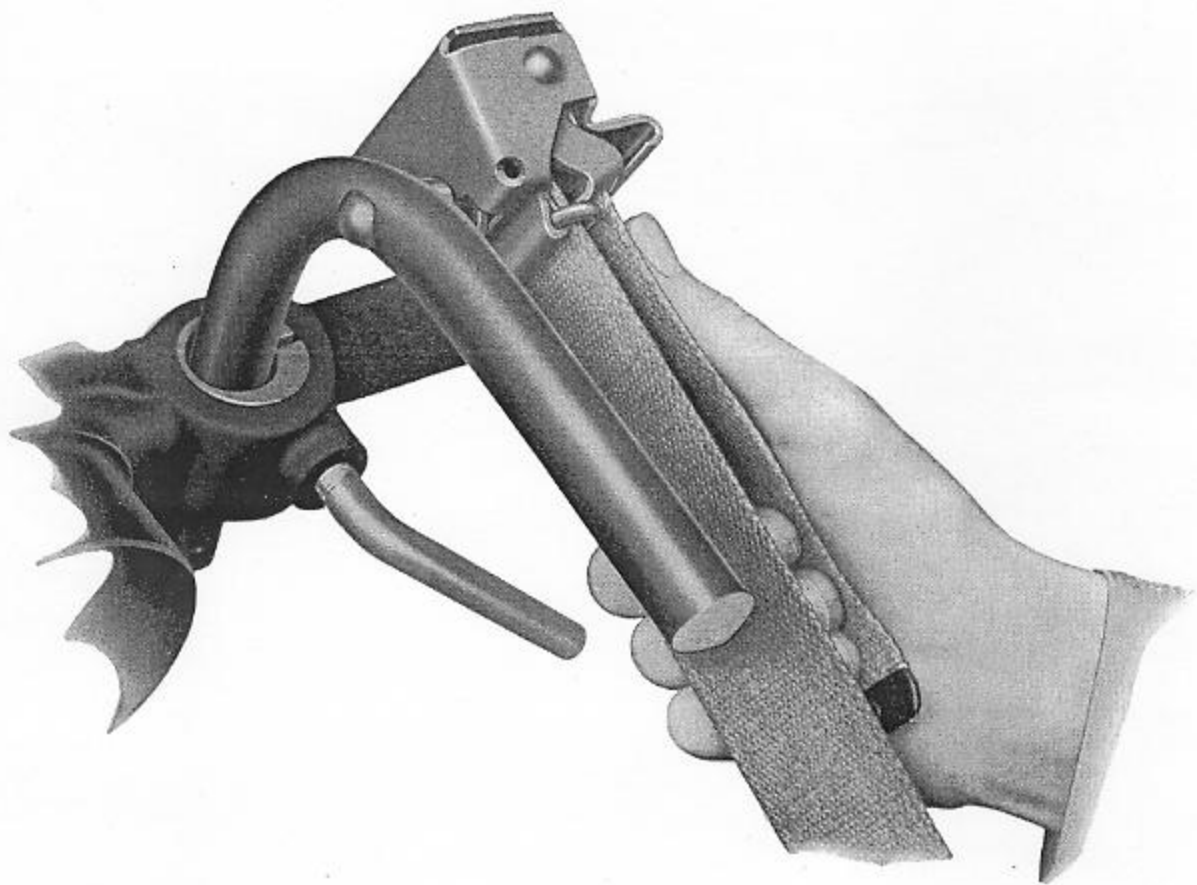

Figure 76—Pull strap downward to adjust
3. Pull end of strap and tighten to desired position, see Figure 76.